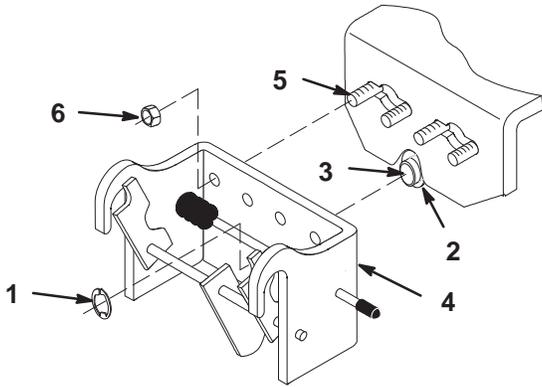

Figure 4
1. Remove E-ring and all washers except one thick washer from tractor front axle pivot pin. Discard unused washers. (Fig. 4). Remove muffler shield.
2. Install (4) 3/8–16 x 1" (25 mm) carriage bolts into keyhole slots in axle bracket. Install muffler shield and place front hitch onto the tractor securing with (4) 3/8" locknuts and previously removed E-ring (Fig. 4).